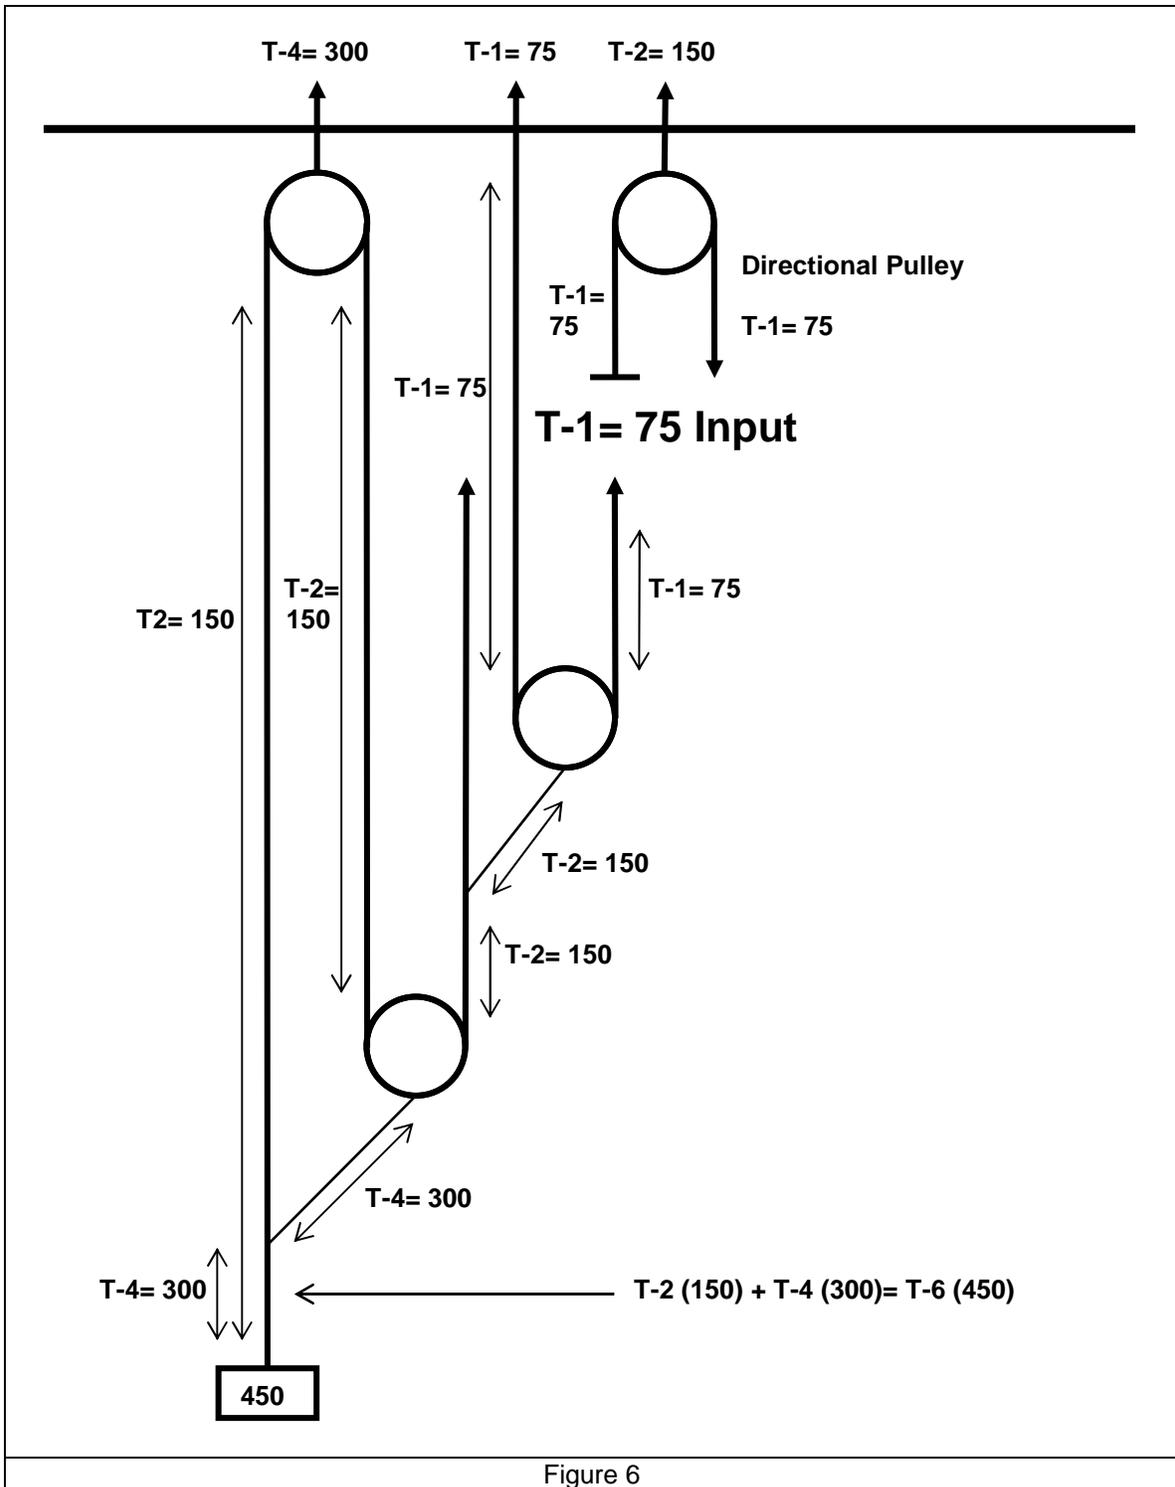

Figure 6
- Figure 6 shows a discreet 2:1 system, piggy-backed on a 3:1 by means of a 3-wrap Prusik, to produce a 6:1 system
- Alternatively, this could be re-configured into a 2:1 on a 3:1= 6:1 with the same equipment (See: Figure 6)